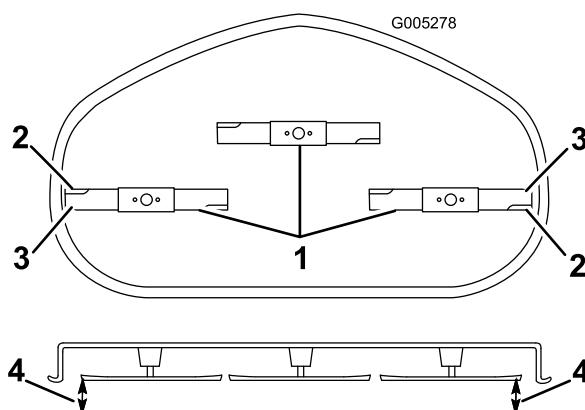

Figure 47
4. Carefully rotate the blades so that they are all side to side (Figure 47).
5. Measure between the outside cutting edges and the flat surface (and Figure 47). If both measurements are not within 3/16 inch (5 mm), an adjustment is required; continue with this procedure.